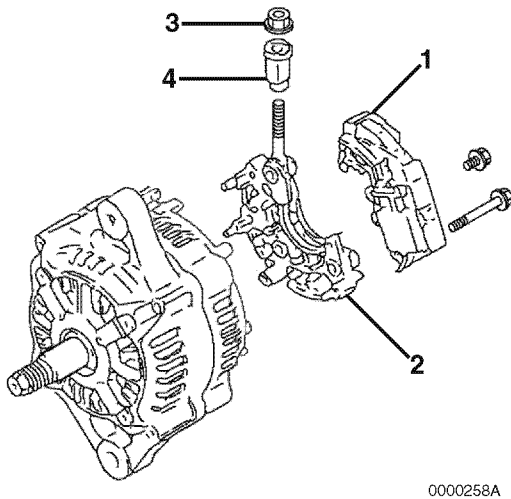

Figure 11-7
- Remove the bolt retaining the regulator assembly (Figure 11-7, (1)) to the holder (Figure 11-7, (2)).
- Remove the bolts retaining the holder (Figure 11-7, (2)) to the rear frame housing. Remove the holder.
- Remove the nut (Figure 11-7, (3)) retaining the insulation bushing (Figure 11-7, (4)). Remove the insulation bushing.